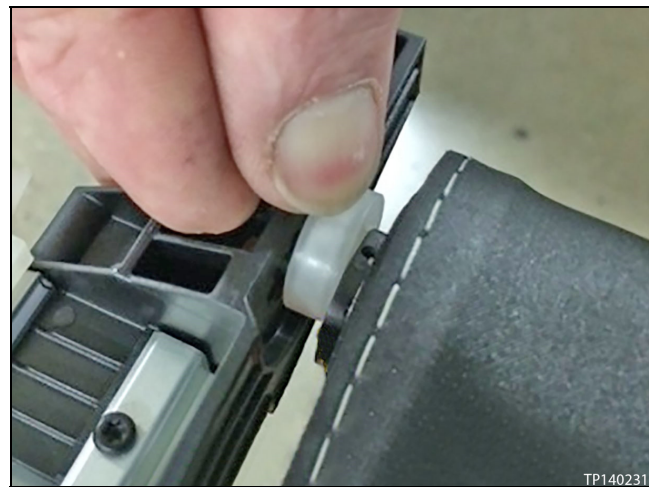

Figure 20
10. Snap the shaft spacer in place on the passenger side shaft (see Figure 20).